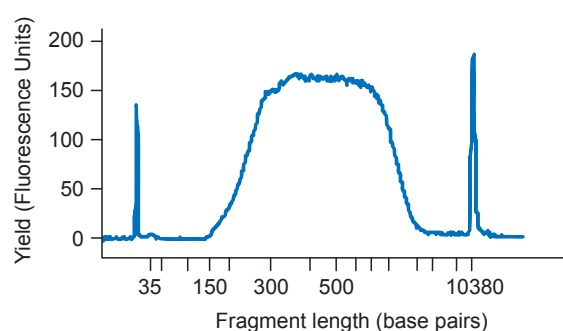

Figure 2. Example of trace of amplified library from a single HEK293 cell (19 cycles). Data obtained from Picelli et al. 2025.³
- 10.15 Use the average size indicated on the Bioanalyzer and the concentration reported after Qubit measurement to determine the exact molarity required for sequencing. Example of trace shown in Figure 2.